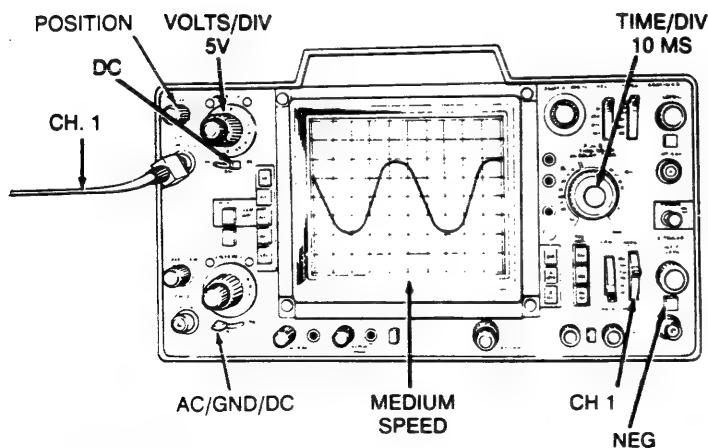

Figure 3-6A
2. Set the Oscilloscope controls as shown in Figure 3-6A.
7. Establish a ground reference at the center of the scope screen by setting AC/GND/DC to GND, adjusting the POS Control, and returning AC/GND/DC to DC (Figure 3-6A).